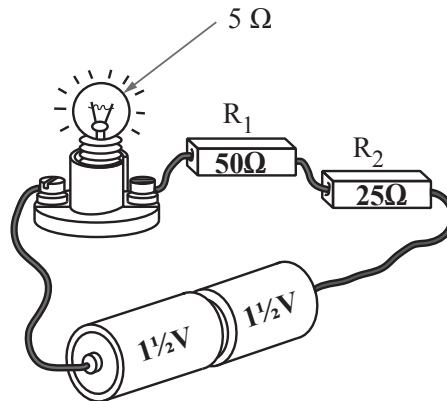

Fig. 4 (a)
- 4 (a) **Figure 4 (a)** shows some electrical components in a circuit.